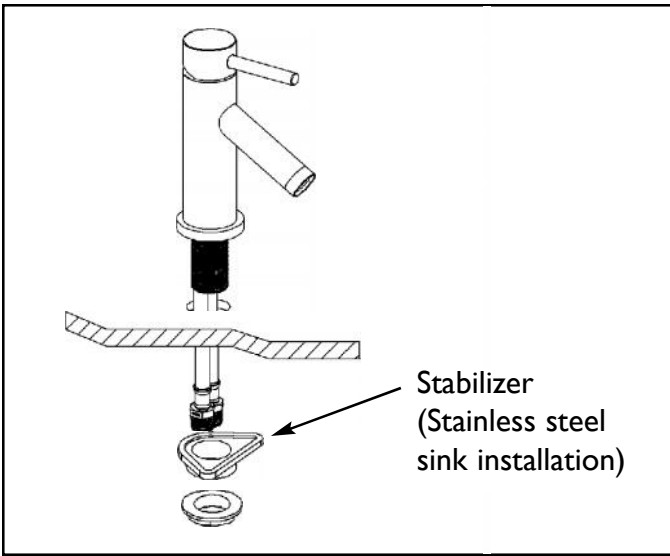

Figure 1
- 1. Place the spout shank & hoses through mounting surface. Secure spout into place with mounting nut. (Utilize stabilizer bracket in addition to mounting nut when installing to a stainless steel sink. See Fig. 1**